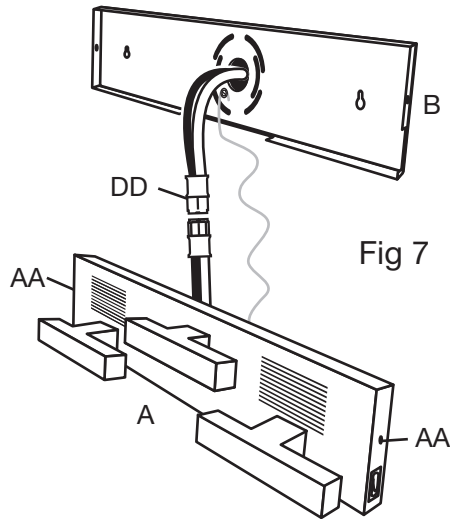

Fig 7
1. Place Rocker Switch (F) in OFF position.
2. Remove Light Fixture (A) from Mounting Plate (B) by removing Mounting Plate Screws (AA) and disconnect Capstone Quick Connectors (DD) and ground wires (Fig 7).
5. Close Battery Compartment (H).
6. Reconnect Capstone Quick Connectors (DD) and ground wires (Fig 7).
7. Place Rocker Switch (F) in ON position to activate Night Light feature.
8. Align Light Fixture (A) in Mounting Plate (B) and secure with Mounting Plate Screws (AA).